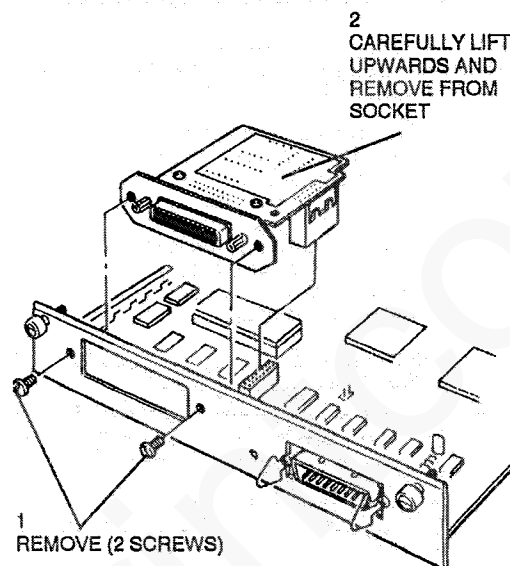

Figure 1. Serial communication PWBA removal
2. (Figure1) Remove the serial communication PWBA.